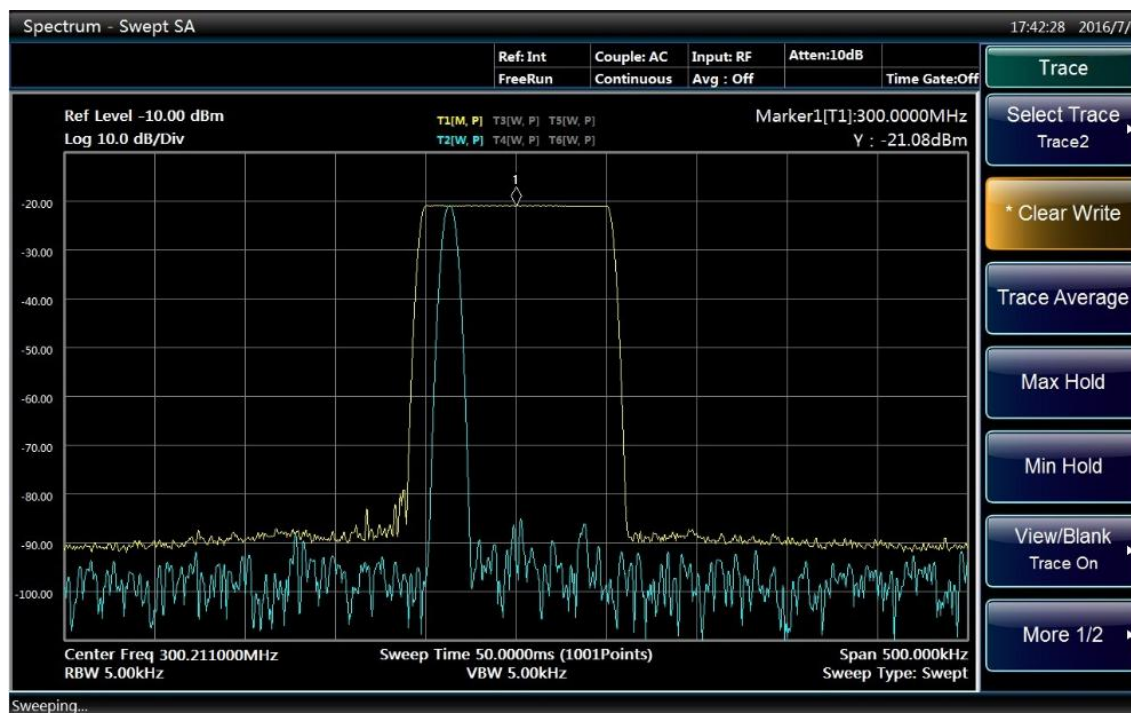

Fig. 4.37 Signal drift observation by the max hold
Step 10: slowly change the output frequency of signal generator, to make it change at 1kHz step and range from $\pm 50\text{kHz}$. What displays on the signal/spectrum analyzer is shown in Fig. 4.37.